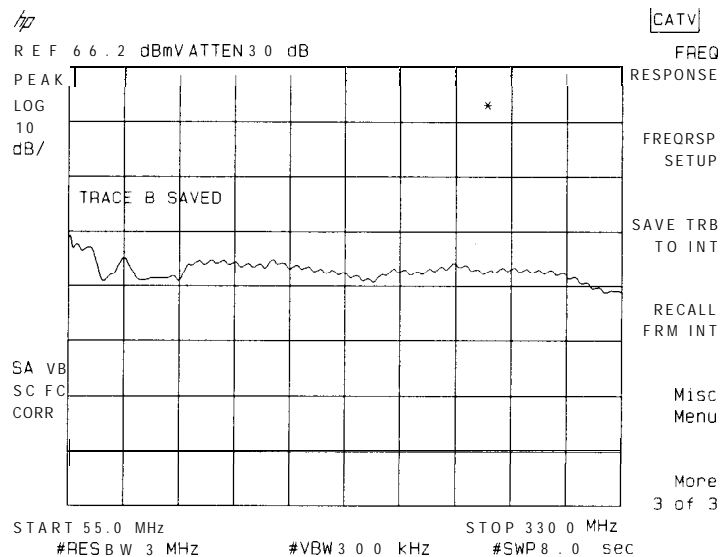

Figure 2-24.
3. Trace B is saved internally when the message **TRACE B SAVED** appears as shown in Figure 2-24.